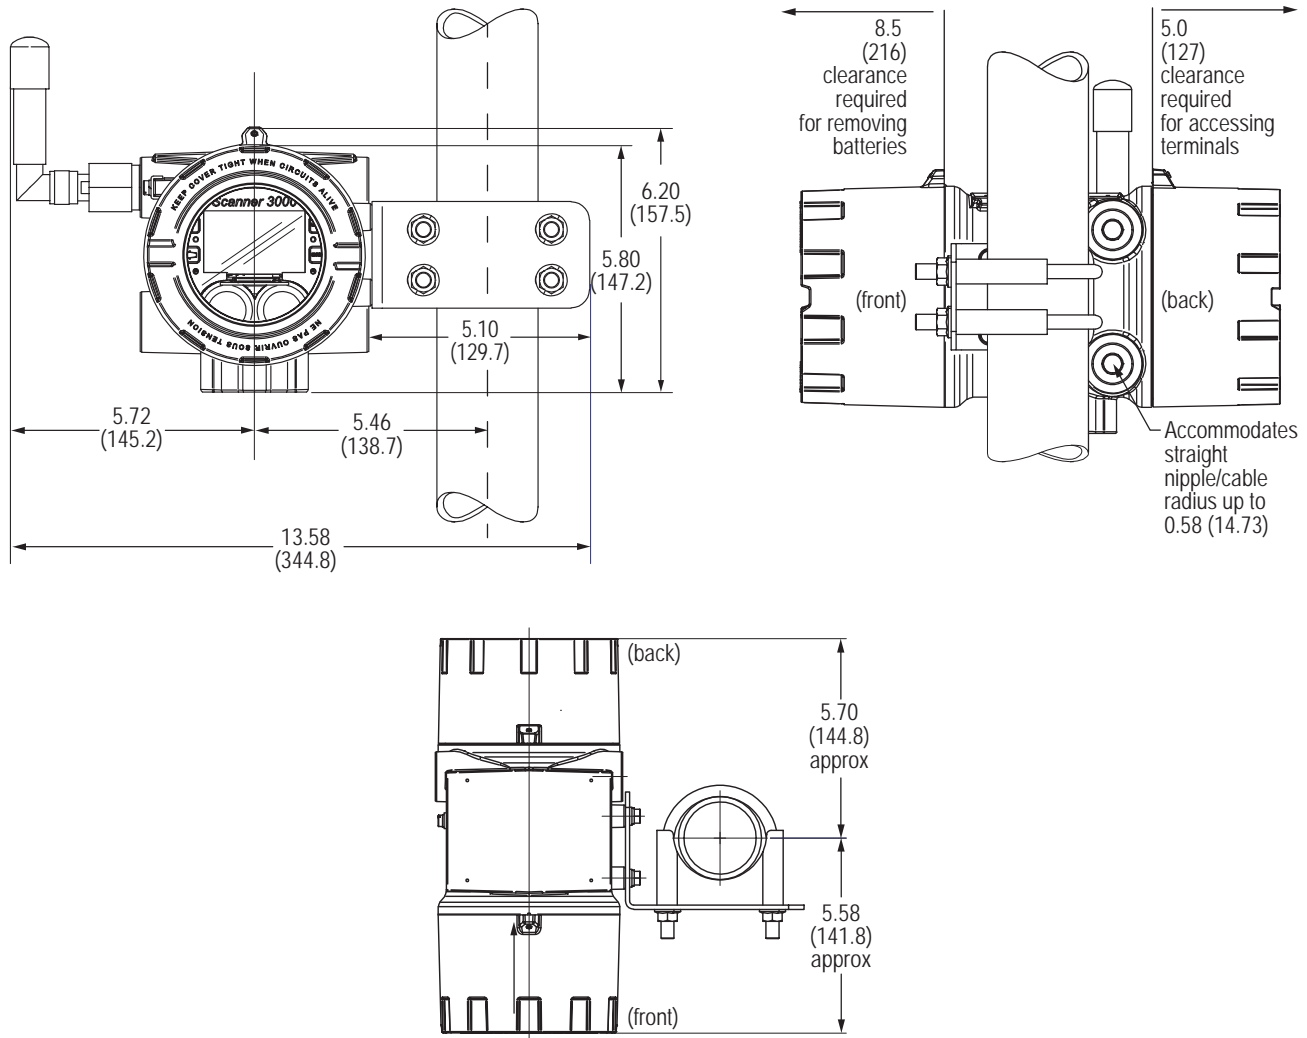

Figure 2.2—QRATE Scanner 3100 remote-mounted with a 2-in. pole mount kit; dimensions are shown in inches (mm)
- **Pole-mount.** The instrument can be mounted on a 2-in. pole using the mounting bosses on the side of the enclosure and a Sensia pole mount kit (as shown in Figure 2.2, page 28). Tubing is used to connect the MVT to the orifice meter or cone meter.
The 2-in. pole mount hardware kit (Figure 2.2) is a convenient option for remote-mounting the QRATE Scanner 3100. The kit consists of a stainless steel “L” mounting bracket with four mounting holes, two U-bolts, four nuts, and four 10-mm M6 screws.